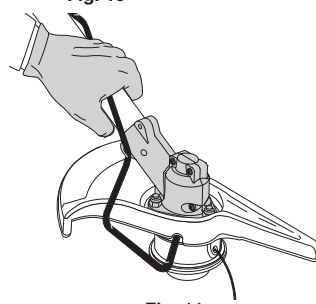

Fig. 11
2. Hold the locking rod in place by grasping it next to the boom of the unit (Fig. 11).
- Hold the locking rod in place by grasping it next to the boom of the unit (Fig. 11).